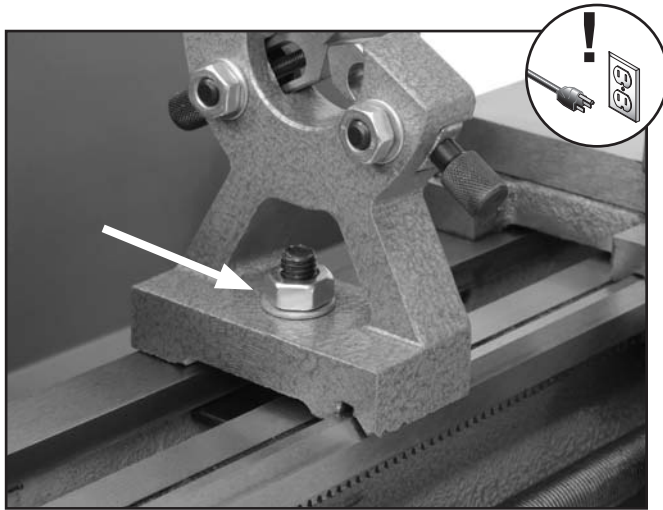

Figure 19. Installing steady rest.
2. Tighten the bolt to hold the steady rest firmly in position (see **Figure 19**).